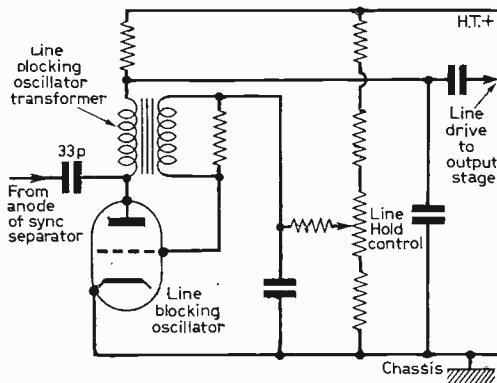
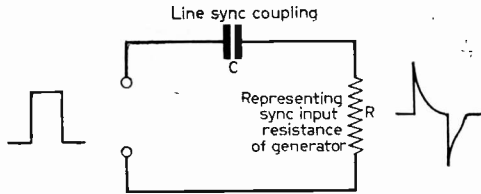

Fig. 2: Typical line blocking oscillator with sync pulses applied via a low-value capacitor to the anode circuit.
Fig. 3: Basic differentiator circuit.
The simplest differentiator consists merely of a low-value capacitor connected between the sync separator valve anode and the sync input of the line generator, as shown in Fig. 2. The differentiating action takes place through this capacitor in relation to the effective sync input resistance of the generator, giving a circuit like that in Fig. 3 which produces the differentiated pulse from a rectangular pulse (line sync pulse) input. Assuming, then, that the sync separator is delivering line pulses, lack of line hold could be caused by (1) trouble in the coupling capacitor (the 33pF capacitor in Fig. 2) or (2) trouble in the generator
The first test would thus be of the 33pF capacitor, and this is best done simply by replacing it. If the trouble persists the generator could be at fault. In blocking-oscillator generators, as for example Fig. 2, slightly impaired insulation from the windings of the blocking-oscillator transformer to chassis (core) or between windings can modify the  $R$  value in Fig. 3 and thus mess up the line sync performance. This trouble is not as uncommon as it might seem, and it can often be brought to light by applying pressure to the windings of the transformer with the flat part of the blade of a screwdriver. If this action modifies the line lock efficiency the transformer should be replaced.
Improved line lock can sometimes be achieved by increasing the  $C$  value in Fig. 3 (the 33pF capacitor in Fig. 2) and the author has known instances where doubling the value has immensely improved the locking. However it must be appreciated that the  $RC$  time-constant is arranged to suit the time period of the line sync pulses, and since  $C$  is relatively low value a positive and negative differentiation occurs during the intervals between the series of field pulses. These are responsible for keeping the line generator in sync during the time that the field pulses are occurring.